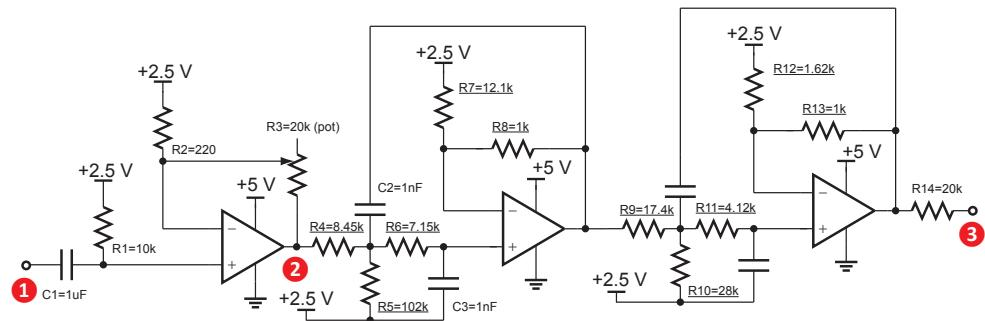

Figure 16: Schematic of the active low-pass filter. Underlined resistors values are 1% tolerance.
Fig. 16 shows the schematic of the active LPF circuit. The filter has a cut-off frequency of **15 kHz** and was designed with the TI WEBENCH filter design tool.
1. Identify the gain stage (between point 1 and point 2 Fig. 16). What is the expression of its gain? Notice that the +2.5 V supply does not affect this result, rather it simply sets the bias of the overall amplifier
1. Identify the active LPF portion of the circuit (between point 2 and point 3 in Fig. 16). The overall filter consists of 2 low pass filters. What is the order of the overall filter and how is it determined from the schematic?
3. To measure the filter response only, input a 3 Vpp signal through a series 1 nF capacitor at point 2 in Fig. 16 and measure the output through R14 (at point 3 in Fig. 16). Tabulate and plot the frequency response from 100 Hz to 150 kHz. What is the cutoff frequency of the filter?